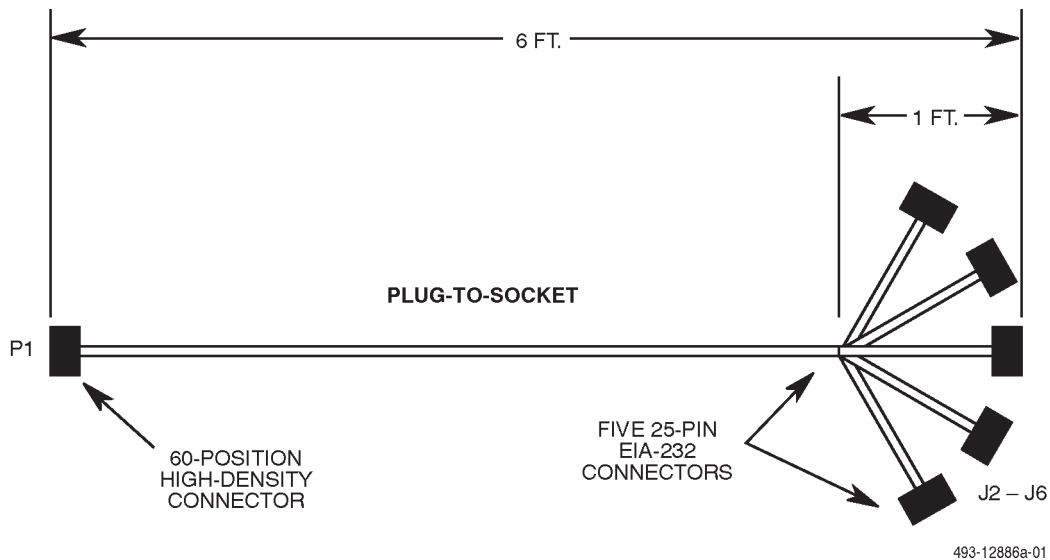

Figure C-1. TDM Interface Cable (Feature Number 3600-F2-500)
- **Figure C-1** shows the TDM interface cable that is used for both TDM and MCMP non-modular applications; **Table C-1** provides its connector pin assignments.